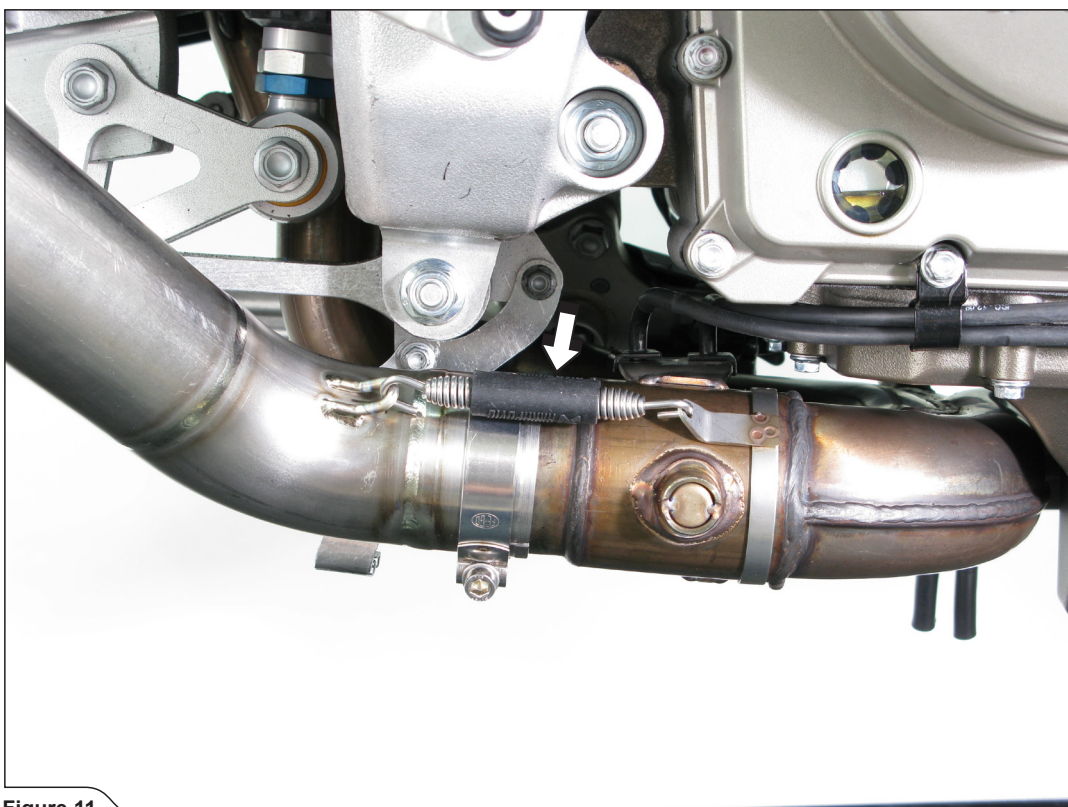

Figure 11
3. Slide the link pipe onto the stock collector and attach the spring (Figure 11).